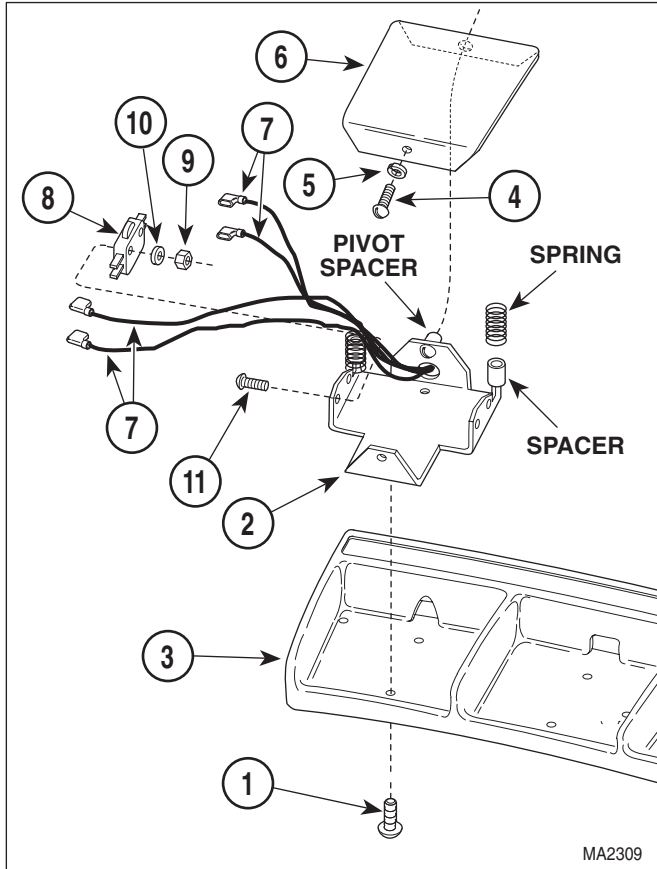

Figure 4-32. Typical Foot Pedal Foot Switch Removal / Installation
- (1) Unplug table power cord from outlet.
- (2) Remove two screws (1, Figure 4-32) and partially separate foot switch bracket (2) from foot control casting (3).
- (3) Remove screw (4), spacer (5), and pedal (6) from foot switch bracket (2).
- (4) Tag and disconnect two wires (7) from terminals of foot switch (8).
- (5) Remove two nuts (9), washers (10), screws (11), and foot switch (8) from foot switch bracket (2).